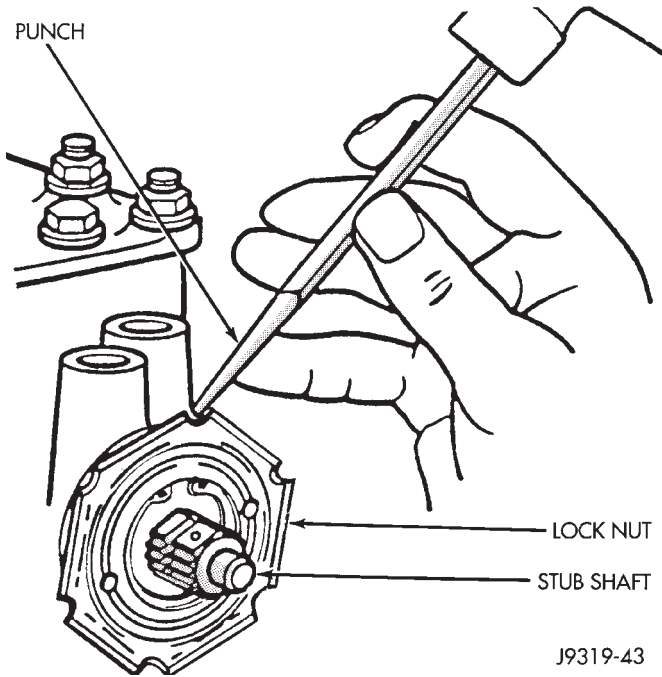

Fig. 8 Loosening the Adjuster Plug Locknut
(1) Remove adjuster plug locknut (Fig. 8).